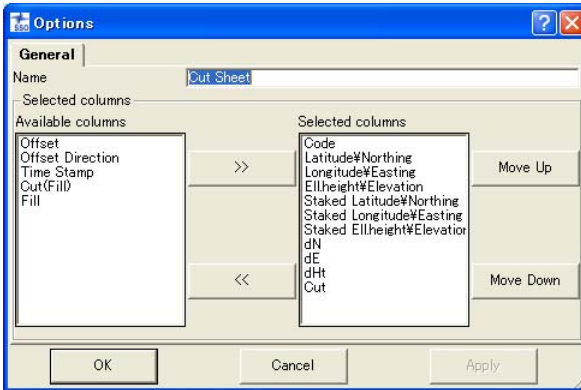

Figure 7-17. Item Options – Staked Points Report
- Cut Sheet Report – edit the name select parameters to include or exclude using the move right/move left buttons, order the display of parameters using the Move Up/Move Down buttons, and click **OK** (Figure 7-17).
- Misnamed Auto topo Rovers Report – edit the name and click **OK** (Figure 7-17).